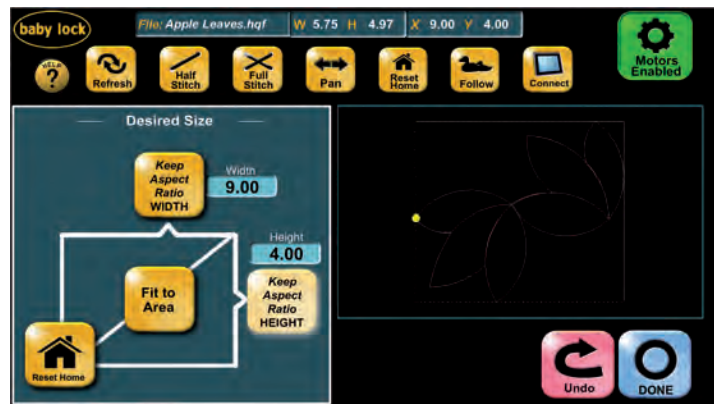

Figure 14
2. Press the “Keep Aspect Height” button and the Pro-Stitcher will calculate the width required to maintain the current aspect ratio based upon the new height entered (Figure 14).